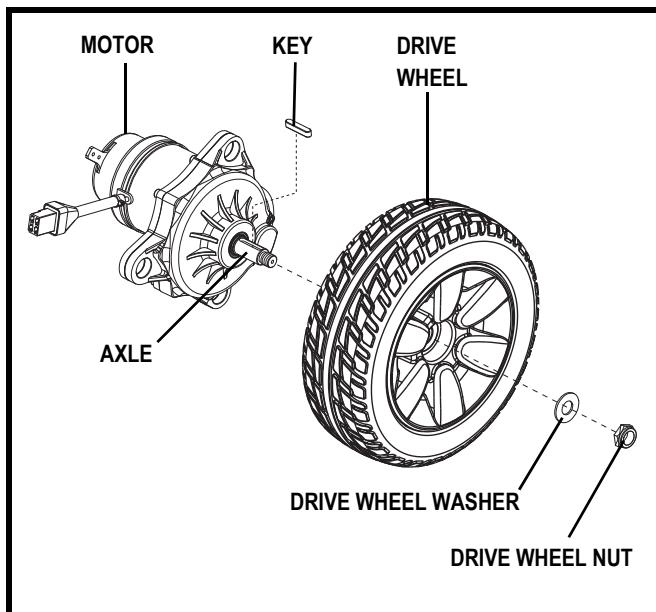

Figure 20. Jazzy Select Elite Drive Wheel Removal
4. Remove the drive wheel nut and washer from the axle. See figure 20.
8. Reinstall the drive wheel nut and washer onto the axle and tighten. See figure 20.